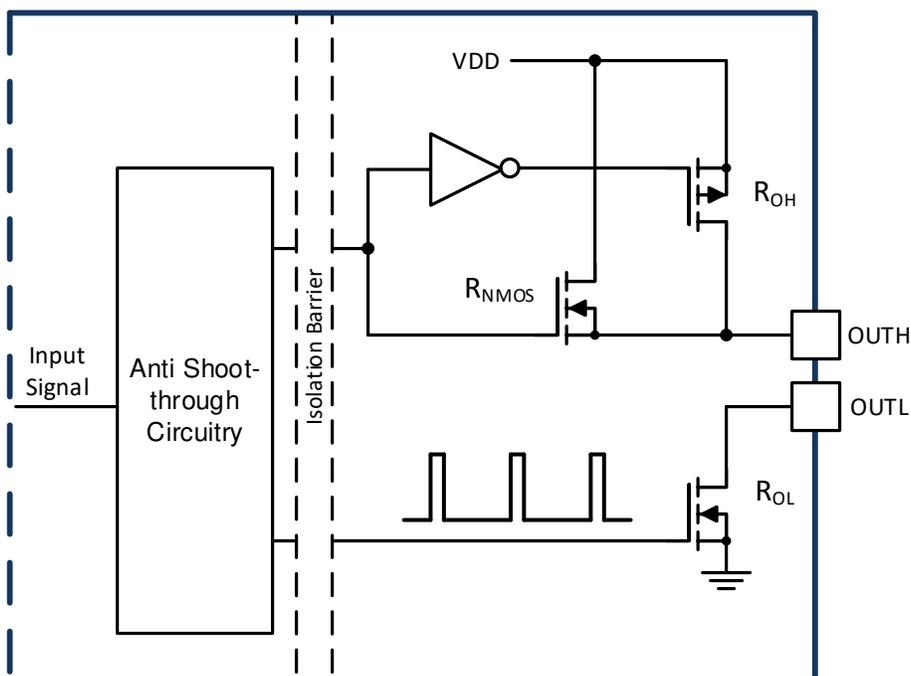

Figure 7-1. Gate Driver Output Stage
an important safety function wherein, when the input pins are in floating condition, the OUTH/OUTL is held in LOW state. The split output of the driver stage is depicted in Figure 7-1. The driver has rail-to-rail output by implementing a hybrid pull-up structure with a P-Channel MOSFET in parallel with an N-Channel MOSFET, and an N-Channel MOSFET to pulldown. The pull-up NMOS is the same as the pull down NMOS, so the on resistance R_{NMOS} is the same as R_{OL} . The hybrid pull-up structure delivers the highest peak-source current when it is most needed, during the Miller plateau region of the power semiconductor turn-on transient. The R_{OH} in Figure 7-1 represents the on-resistance of the pull-up P-Channel MOSFET. However, the effective pull-up resistance is much smaller than R_{OH} . Because the pullup N-Channel MOSFET has much smaller on-resistance than the P-Channel MOSFET, the pullup N-Channel MOSFET dominates most of the turn-on transient, until the voltage on OUTH pin is about 3 V below VDD voltage. The effective resistance of the hybrid pullup structure during this period is about $2 \times R_{OL}$. Then the P-Channel MOSFET pulls up the OUTH voltage to VDD rail. The low pullup impedance results in strong drive strength during the turn-on transient, which shortens the charging time of the input capacitance of the power semiconductor and reduces the turn on switching loss. The output pull-up and pull-down resistance can be found in the Electrical Characteristics table.
- $R_{\text{OH_EFF}}$ is the effective internal pullup resistance of the hybrid pullup structure, shown in Figure 7-1, which is approximately $2 \times R_{\text{OL}}$, about 0.7Ω . This is the dominant resistance during the switching transient of the pull up structure.